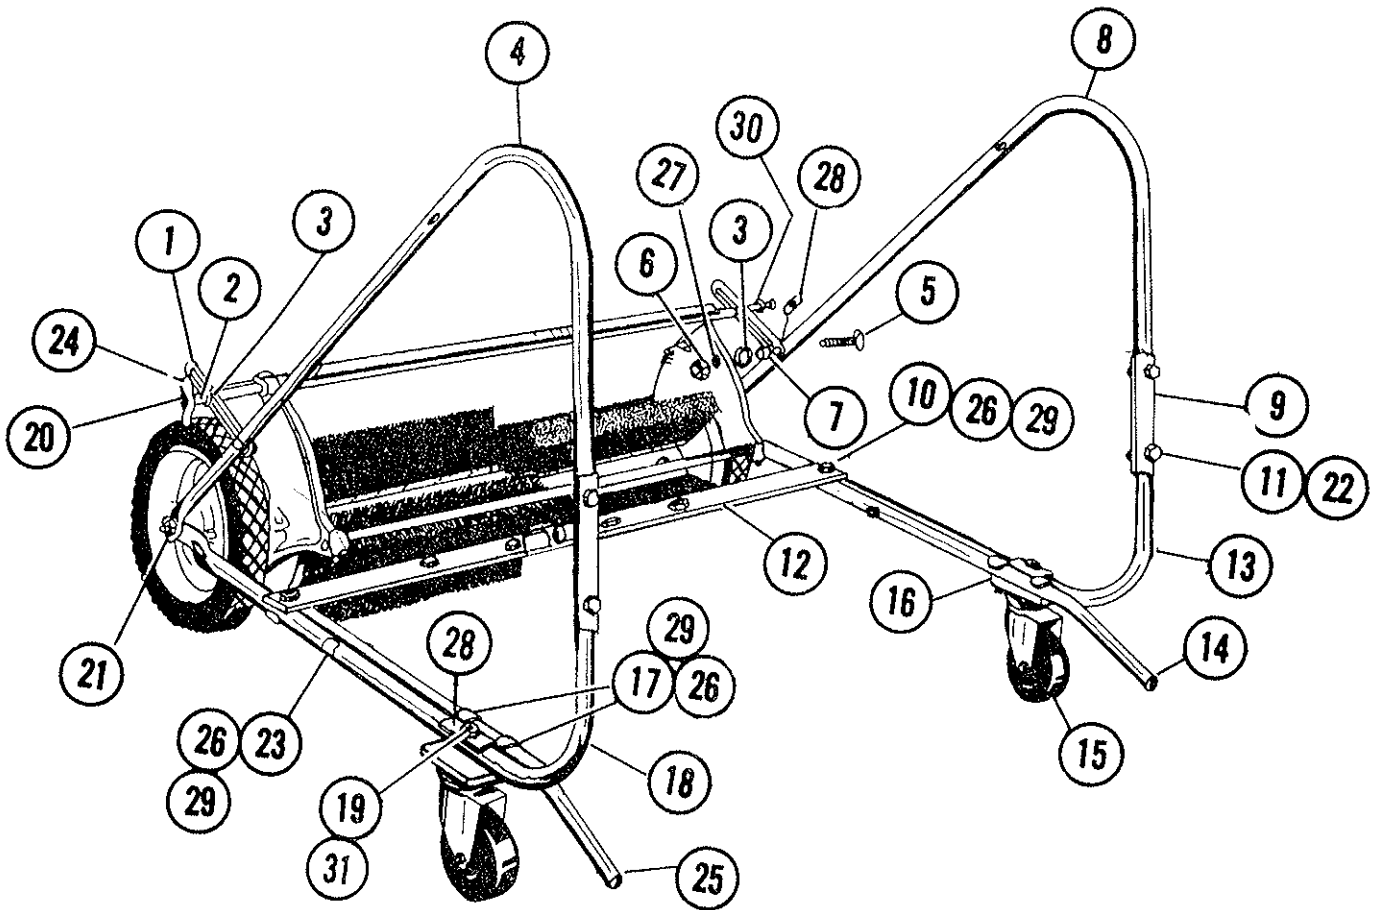

Figure 2
**BRUSH HEIGHT ADJUSTMENT.** Loosen large wing nut, Ref. No. 24, Fig. 2. To raise brushes to extreme height, pull sweeping unit forward as far as slots in brush adjustment brackets, Ref. No. 1, Fig. 2, will permit. To lower brushes to lowest position, push sweeping unit backward as far as slots will permit. Secure wing nut when desired brush adjustment is obtained.
## PARTS LIST Figure 2